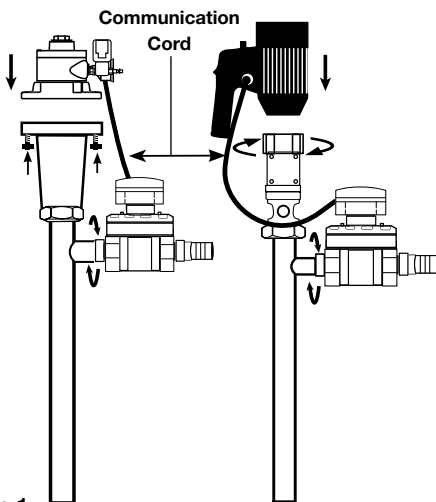

Figure 1
3. Couple the motor to the pump tube by using the stainless steel connection nut or bolt pneumatic motor to the pump using the hardware provided by the manufacturer (see Figure 1).
5. Connect communication cable from batch controller to mating plug located on the motor. (see Figure 1).
14. Reattach motor and resume operation. (see Figure 1, page 1).